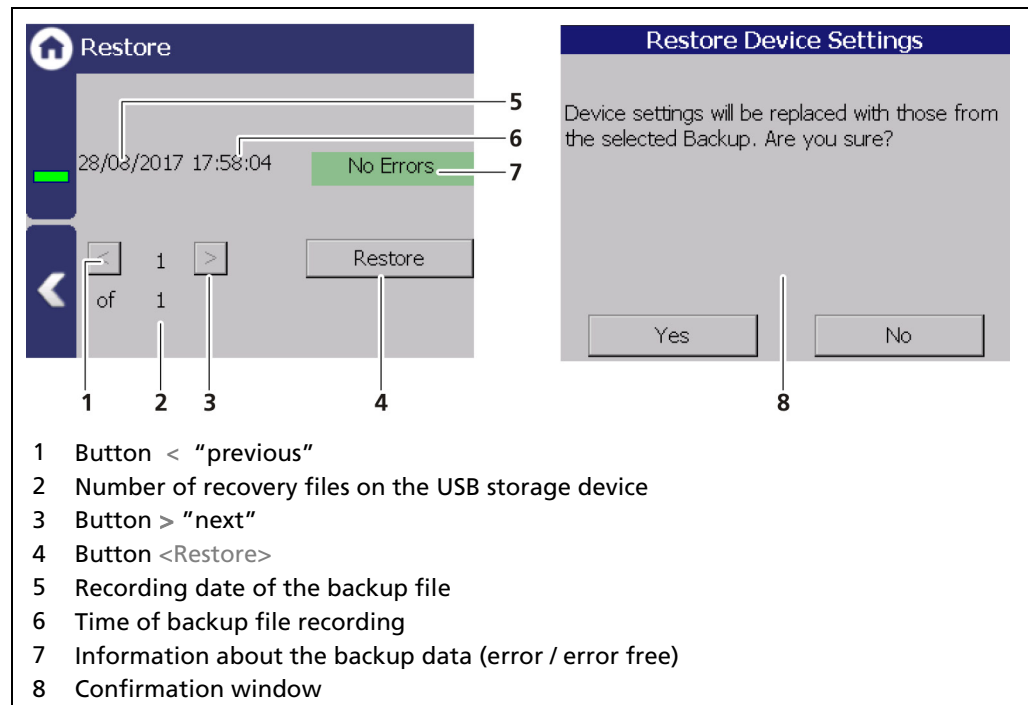

Fig. 133 Restore
2. Select the backup file with the buttons (Fig. 133, item 1,3)
- ▶ The date and time of the backup is displayed (Fig. 133, item 5, 6). Only error-free (Fig. 133, item 7) backup files can be loaded.
3. Click on the button "Restore" (Fig. 133, item 4).
4. A confirmation message (Fig. 133, item 8) appears.